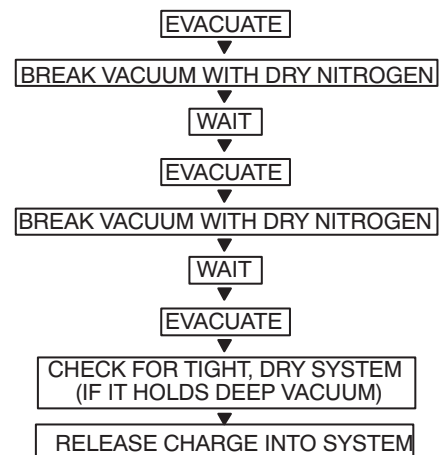

Fig. 16 —Triple Evacuation Method
The triple evacuation method should be used when vacuum pump is not capable of pumping down to 500 microns and system does not contain any liquid water. Refer to Fig. 16 and proceed as follows:
5. Repeat this procedure as indicated in Fig. 16. System is now free of any contaminants and water vapor.